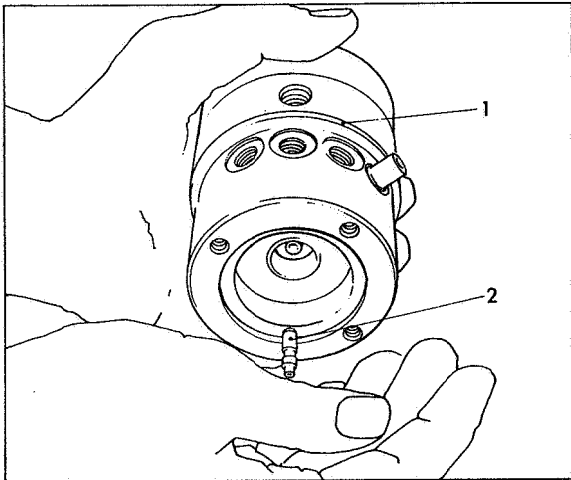

Fig 75 Removing dumb-bell valve
Remove and discard seal (1) Fig 75. Catch the dumb-bell valve (2) in the palm of the hand while tilting the hydraulic head vertically, drive end plate uppermost as shown. It may be necessary to shake the hydraulic head in order to dislodge the dumb-bell valve.